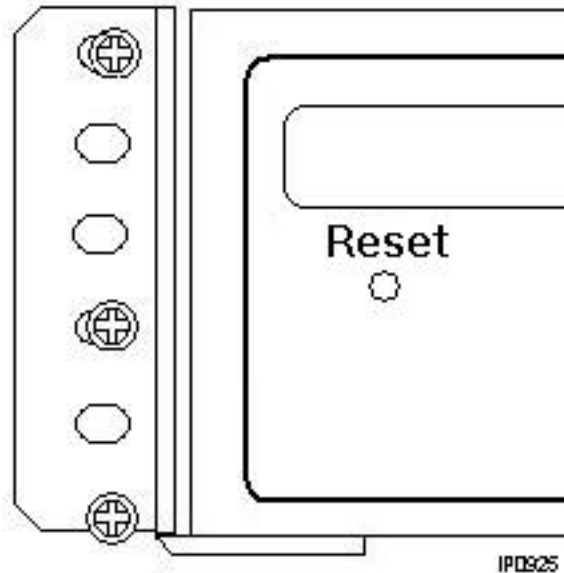

Figure 4.9: MXe III/MXe III-L Rack-mount Screw Placement (2-piece Bracket Installation)
- loosely enough that the frame mounting bracket can be dropped into position, resting on the screw thread (see *Figure 4.9*).